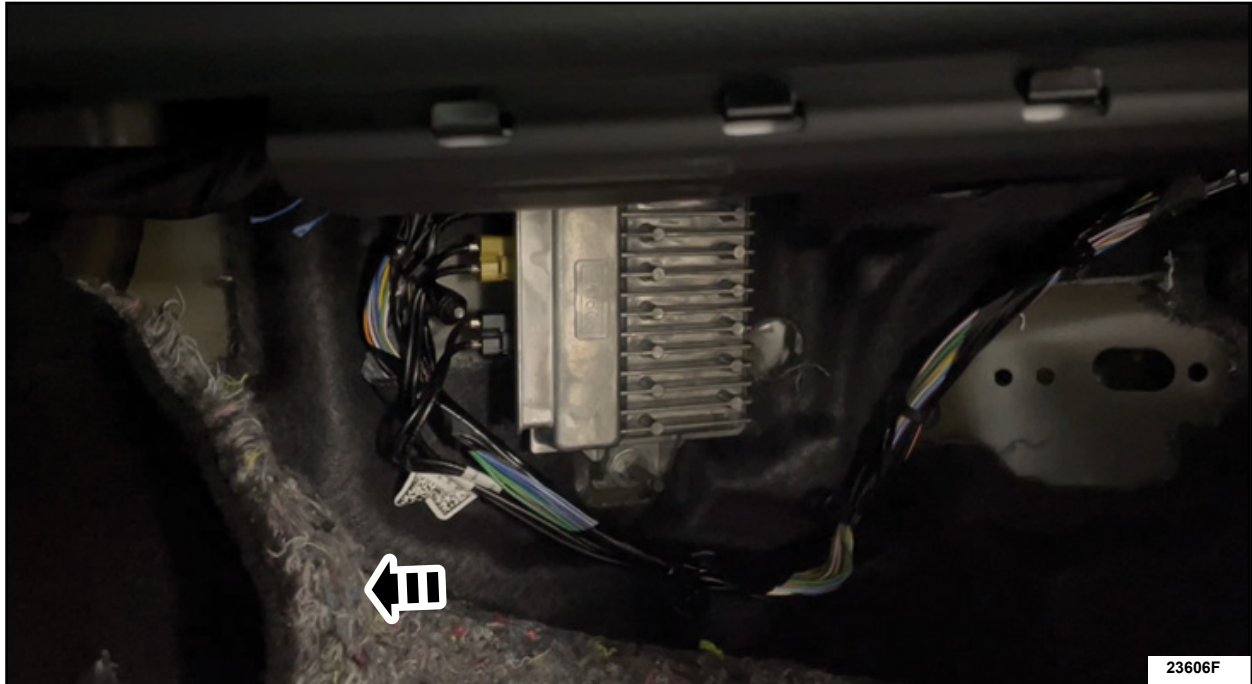

FIGURE 6
8. Position back the carpet on the passenger side floor under the instrument panel (IP). See Figure 6.